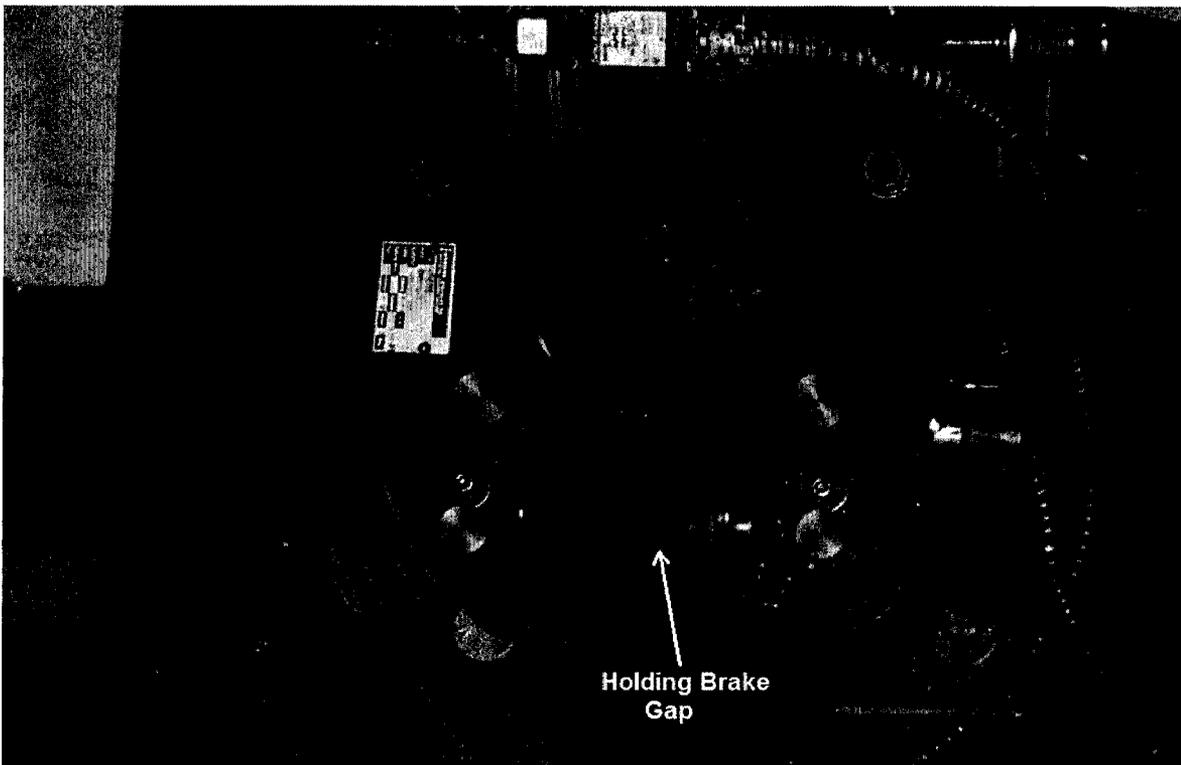

Figure 4
- [] 8.6.1 **DETERMINE** gap (refer to Figure 4).